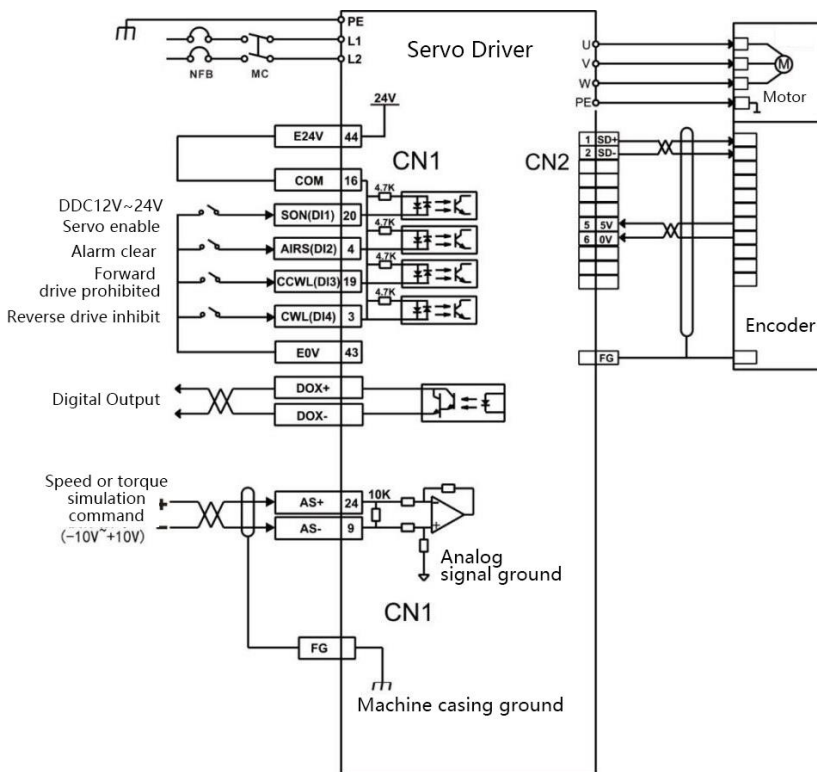

Figure 5.4 Wiring diagram of the speed mode
- 3) Refer to Figure 5.4 for wiring instructions to connect the required DI/DO signals in the CN1 terminal, such as servo enable, alarm clear, positioning completion signal, etc.